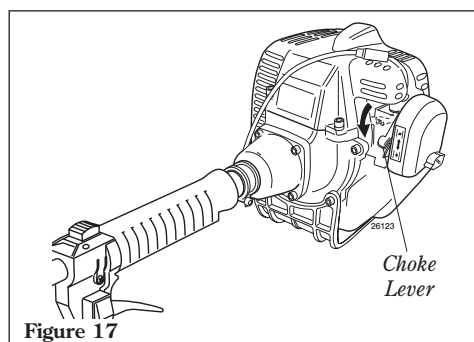

Figure 17
6. When the engine first fires, gradually return the choke to the OPEN position (if you have not already done so). See Figure 17.